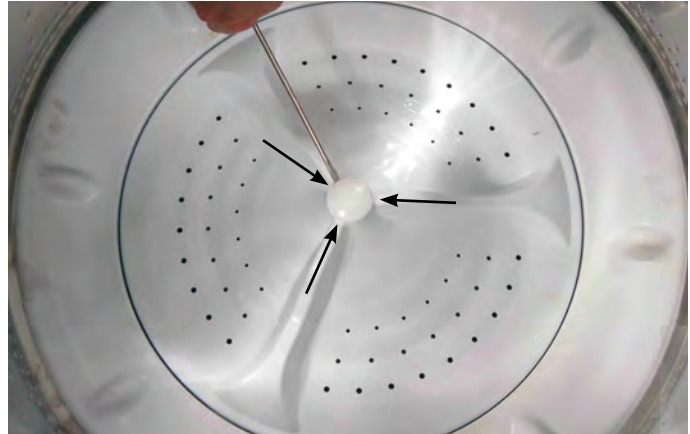

Figure 2
1. Insert the blade from a small screwdriver into the slot in the impeller cap, then pry the cap up and remove it (see Figure 2).